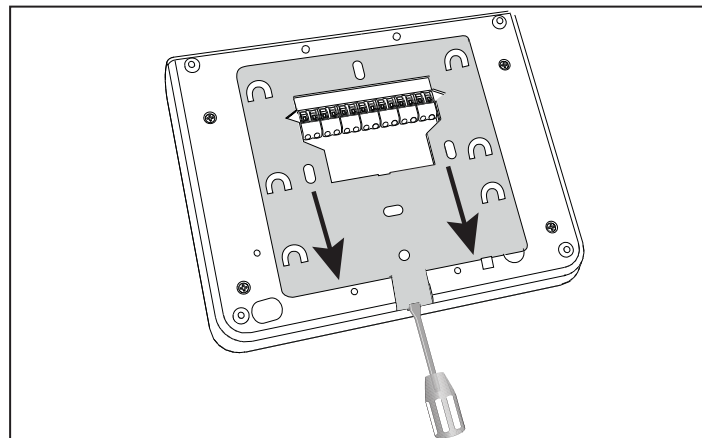

Figure 2.1: Removing the keypad from base
1. Insert a slotted screwdriver under the retention clip to release the clip. Do not pry upwards or twist. Refer to *Figure 2.1*.
2. With your other hand, slide the mounting plate towards the bottom of the keypad to unhook the mounting plate from the keypad. Refer to *Figure 2.1*.